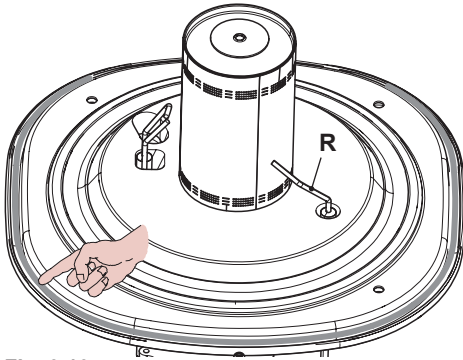
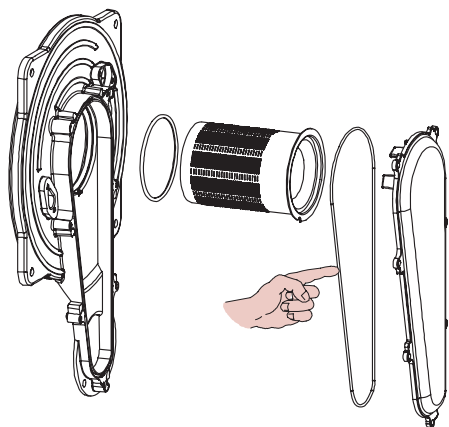

Fig. 9.10
Fig. 9.12
- The detection electrode R in Fig. 9.10 also functions as a sensor for the correct drainage of the condensate. Should the mentioned electrode come into contact with the condensate water present within the combustion chamber it sends the boiler into safety lockout. Therefore, should the insulation be wet or deteriorated, provide for the substitution of the same.
Caution: After any periodical servicing or disturbance the combustion chamber silicon seal Fig. 9.10 and the Air-gas duct gasket (Fig. 9.12) must be fully inspected and replaced at the discretion of the service engineer.